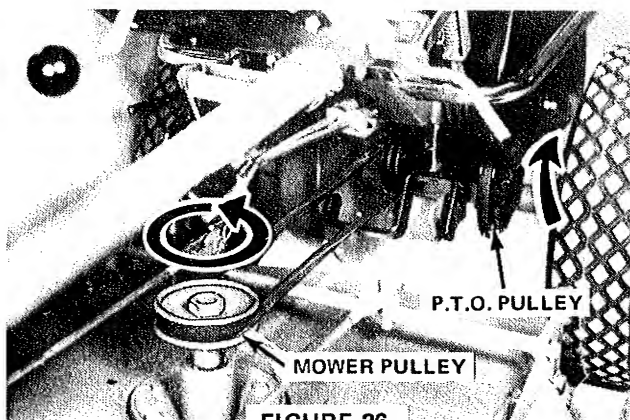

FIGURE 26
**30 INCH MOWER BELT REPLACEMENT:** It is essential that the mower belt be correctly installed. See (Figure 26) Note that the belt must run from the **TOP** of the power take-off pulley to the **RIGHT** side of the mower pulley and from the **LEFT** side of the mower pulley to the **BOTTOM** of the power take-off pulley.